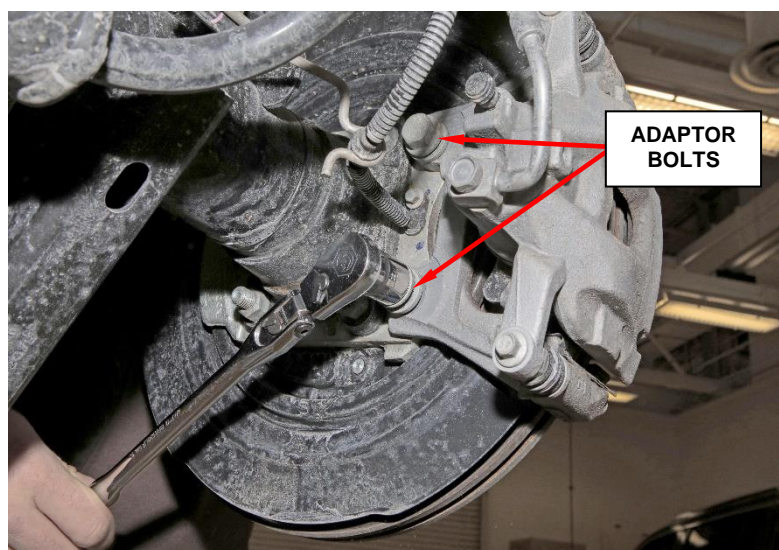

Figure 3 – Brake Caliper Adapter
4. Remove the brake caliper with the adapter (Figure 3).
8. Install the brake rotor fastener and tighten securely (Figure 3).